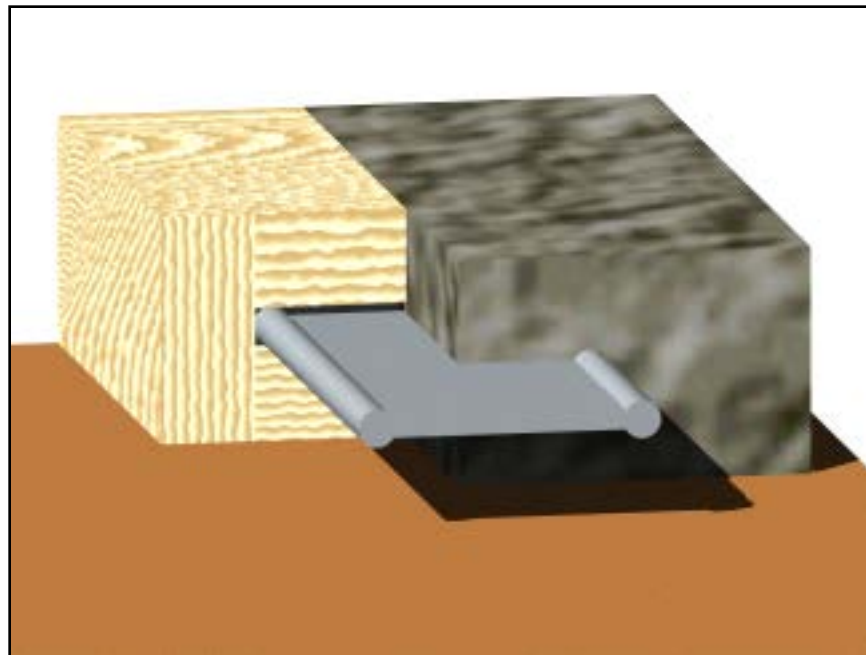

Figure 3 — Typical Split Form Drawing
- B. Center waterstop on joint, with approximately one-half of waterstop width to be embedded in concrete on each side of the joint. (If expansion joint, see step D.) Use split form installation method. — do not bend or fold waterstop flat against forms (See Figure 3).